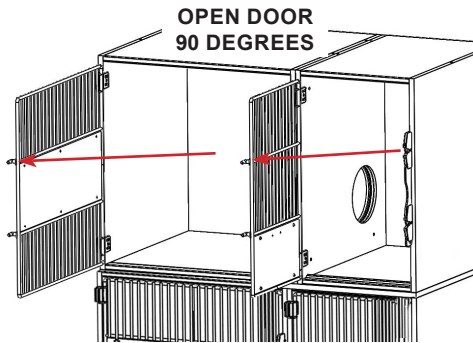

FIGURE 3.6 - Open Door
- A:** Slide the latch bar up and swing the door to the open position (90° to the unit face). See FIGURE 3.6